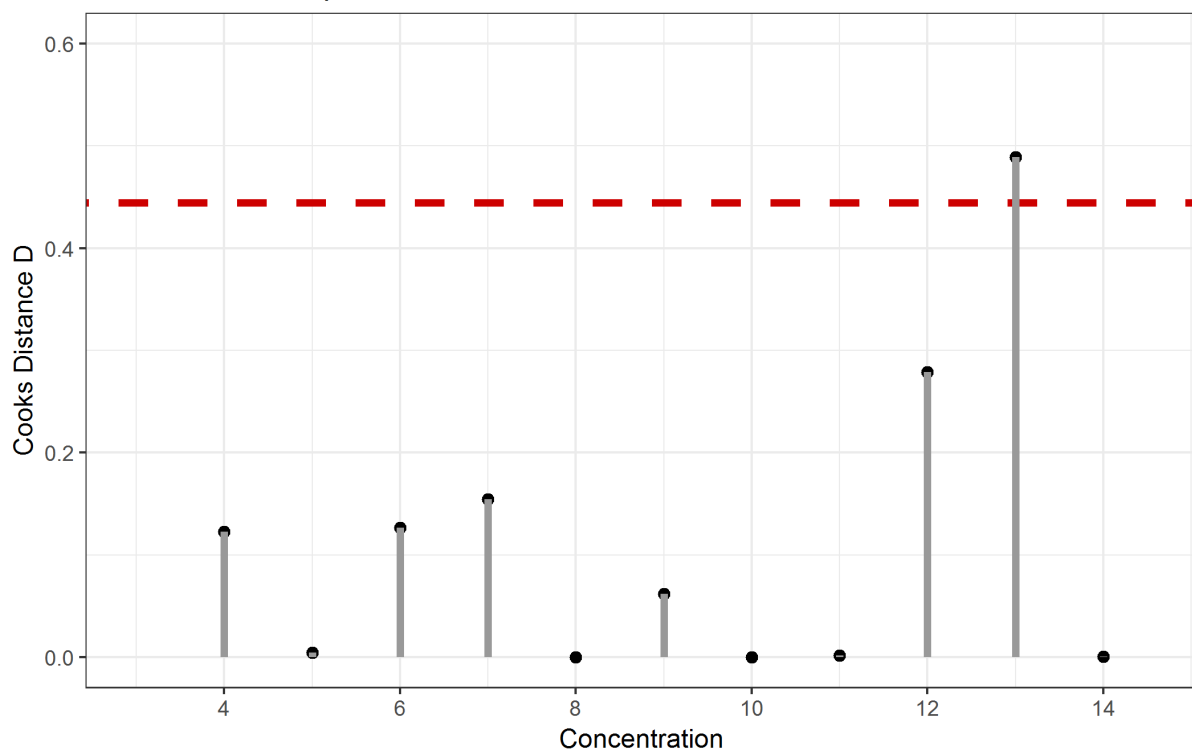

Figure 6: Cook's Distance used to identify influential observations
A measure that takes the X and Y coordinate for each data point into account is the so-called *Cook's Distance (D)* [2]. It relates each data point to all other data points, depending on the X and Y coordinates and is therefore giving a better measure for identifying so-called *influential observations*. These *D* values should be as small as possible and less than a limit which, for *D*, is calculated as $4/(n - 2)$, with *n* representing the number of data points. In Figure 6, all data points are represented as *Cook's Distance* and the limit here is $4/9 = 0.445$. Consequently, data point $X = 13$ is identified as an *influential observation*, meaning, it would change the slope and / or y-intercept too much when removed. But, when looking only at its *leverage* this data point would not be identified as unusual.